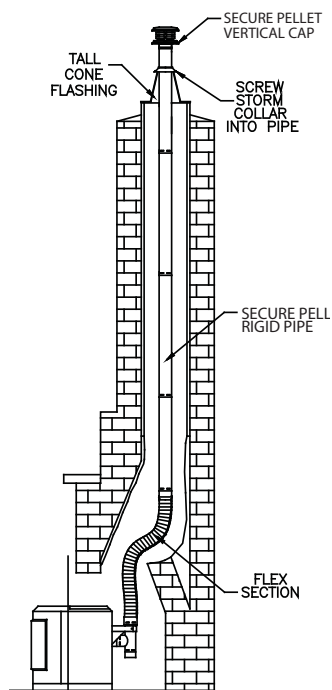

Figure 20
8. In making the connection at the appliance, configurations other than the one shown in **(Figure 20)** may be made. It may be necessary to contact the manufacturer of the